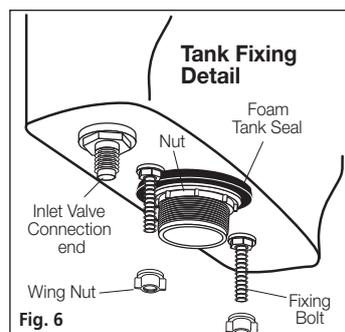

Fig. 6
- 1- Ensure the foam seal is fitted onto the tail piece on the underside of the tank as detailed in **Fig. 6**.